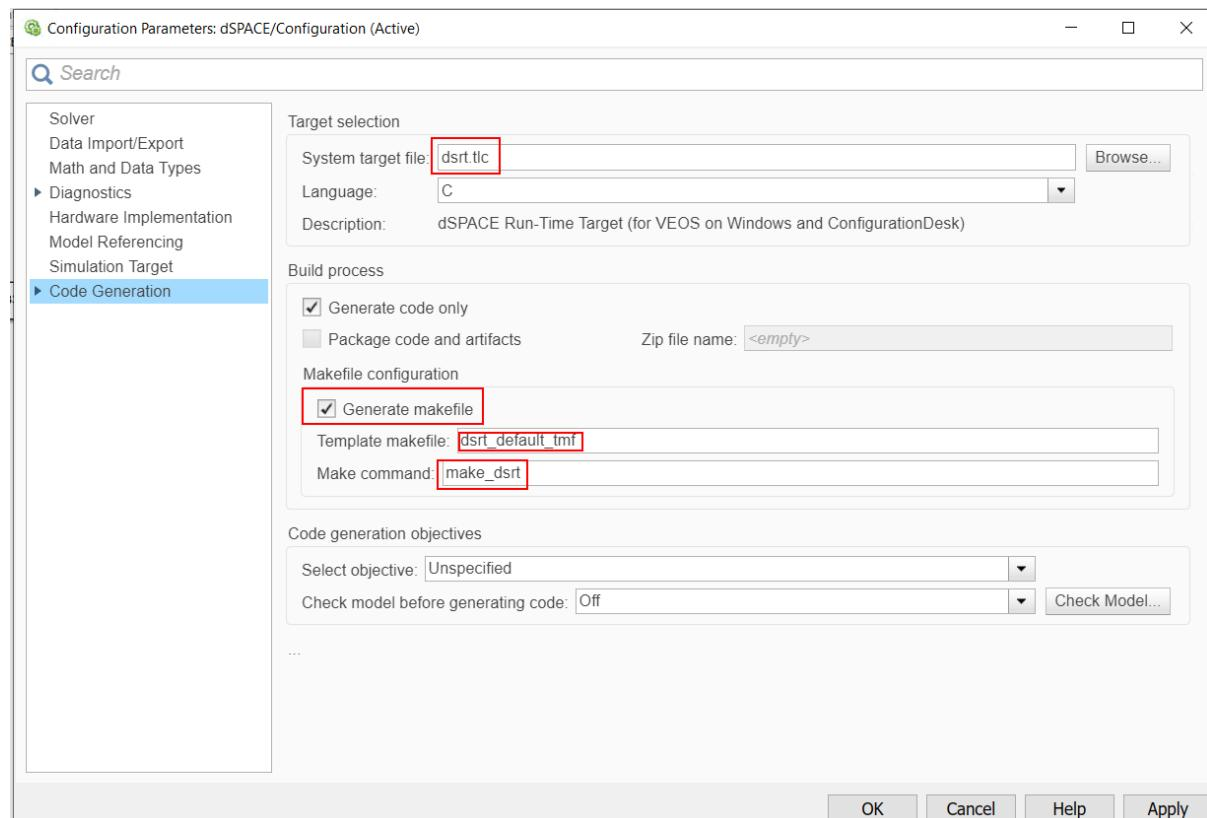

Figure 13.38: Set the Simulink code generation options.
- 9) In the “Code Generation” tab, set the options (see Figure 13.38):